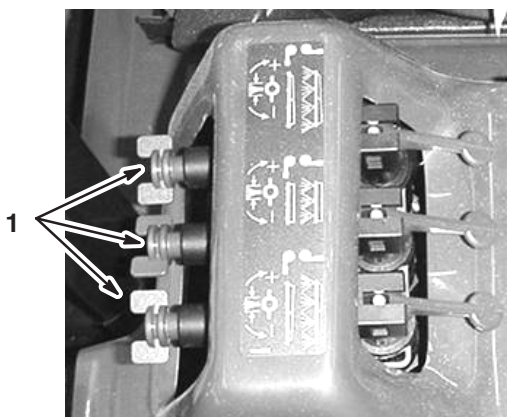

Figure 25
12. Adjust the boom bypass valve (Fig. 25) for the boom you turned off until the pressure reading on the gauge is the same as it was in step 10.